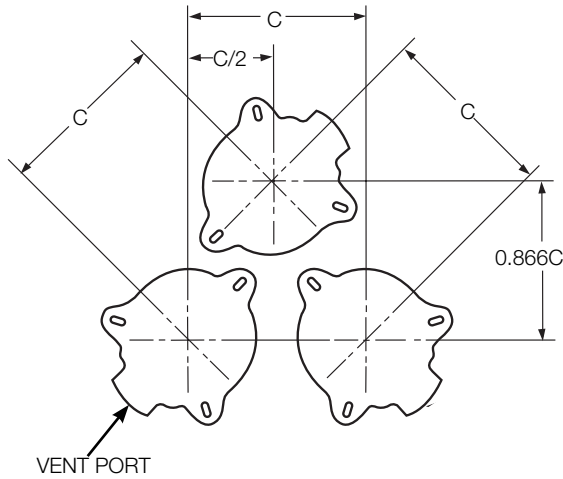
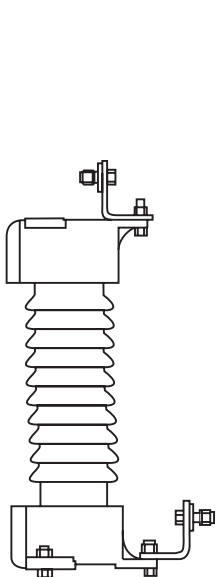

Figure 5.
Figure 8.
The minimum phase-to-ground (Dimension B) and minimum phase-to-phase (Dimension C) clearances are shown in Figure 5 and 6. These values are shown in Table 2. Figure 7 shows the porcelain-top arrester height (Dimension A).
Choose a permanent location so that the arresters will be installed as close as possible (electrically) to the equipment being protected. Minimum clearance distance between any line potential surface of an arrester and ground or another plane is listed in Table 2 as minimum phase-to-ground (Dimension B) and minimum phase-to-phase (Dimension C) and illustrated in Figures 5 and 6. Figures 8, 9, and 10 show the metal-top arrester height (Dimension A).
** See Figures 5 and 6.